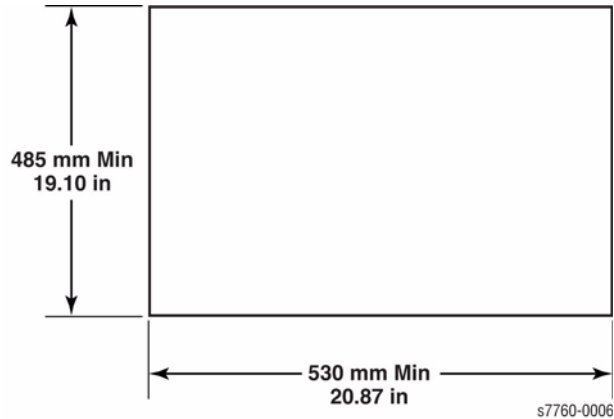

Figure 3 Mounting Surface Dimensions
1. In order to function properly, the printer must be located on a surface with the following **minimum** dimensions (Figure 3). All 4 feet must rest squarely on the mounting surface.